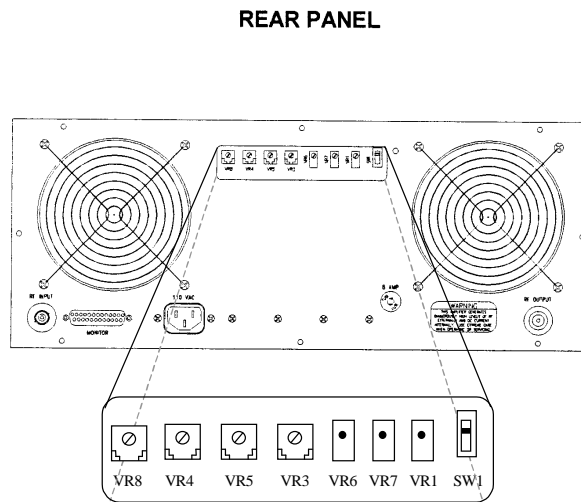

Figure 26 - (TPL) LMS Rear Panel
*Refer to Figure 26 for parts location.*